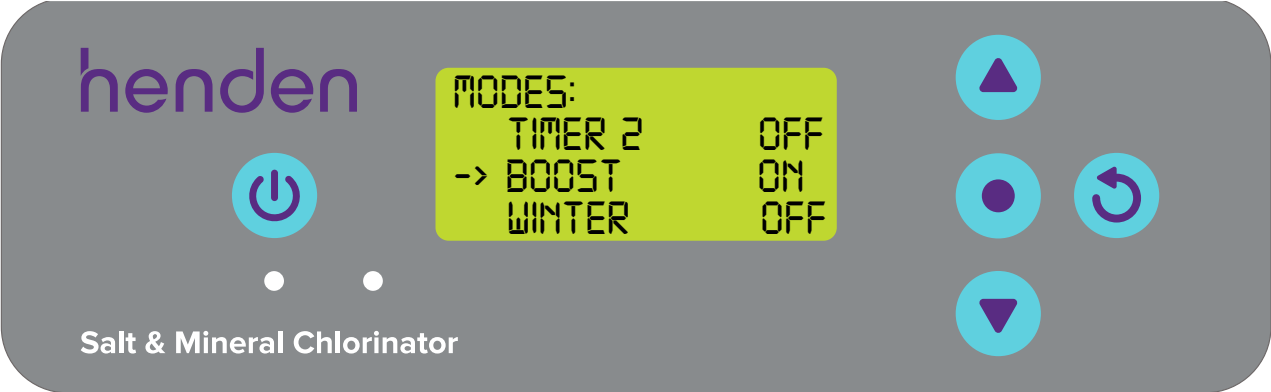

Figure 9.43
- Press the  **menu/setting cancel (go back)** button twice to revert back to the HOME SCREEN (refer Figure 9.43).